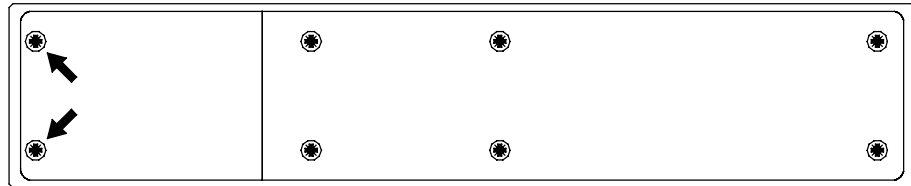

Figure 11 – Removing the Remote Control battery cover
**do this:** Turn the Remote Control unit over and remove the 2 screws shown in **Figure 11** using the 1-point Pozidriv screwdriver supplied. Please do not use a Philips head screwdriver as this will damage the screw heads. Lift off the battery cover.